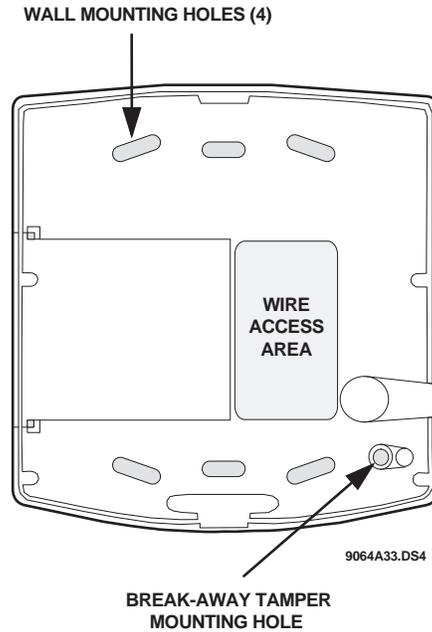

Figure 2. Marking the Mounting Holes
2. For wall-mount installations, place the mounting plate on the wall. Mark the wall at the break-away tamper hole and the mounting holes (see Figure 2). Be sure to leave a 4¼-inch clearance on the left side to allow for the Quick Guide slide-out card. Insert anchors into the wall at the marked locations where studs are not present.